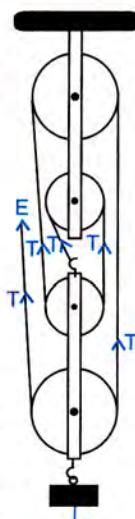

Fig. 3.29
- (a) The arrangement is shown in Fig. 3.29. Here the load is being supported by five segments of the string. Therefore,